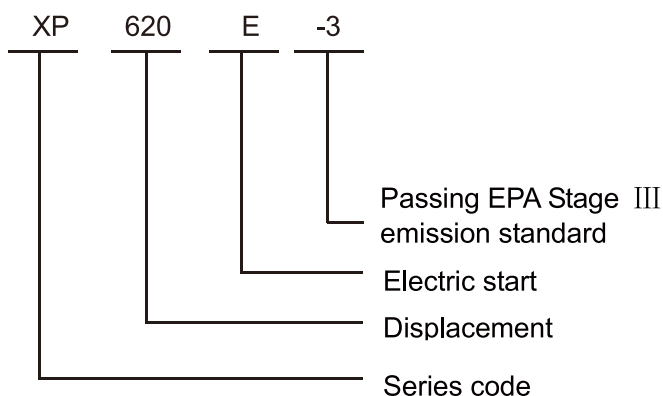

Figure 4
3. Model compositions and corresponding meanings (See Fig. 4):